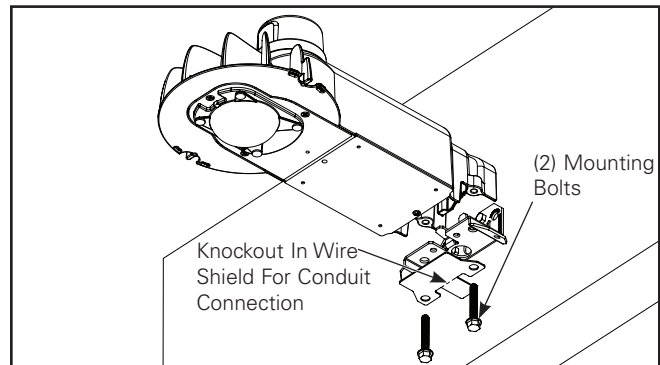

Figure 4.
5. Using 1/2" socket, install wire shield as shown with two fixture mounting bolts up through the wall/pole bracket and into luminaire. If connection to conduit hole in the bottom of mounting bracket is preferred, remove the knockout tab on the wire shield. Tighten to 6-8 ft-lbs. (Figure 4 and 5.)